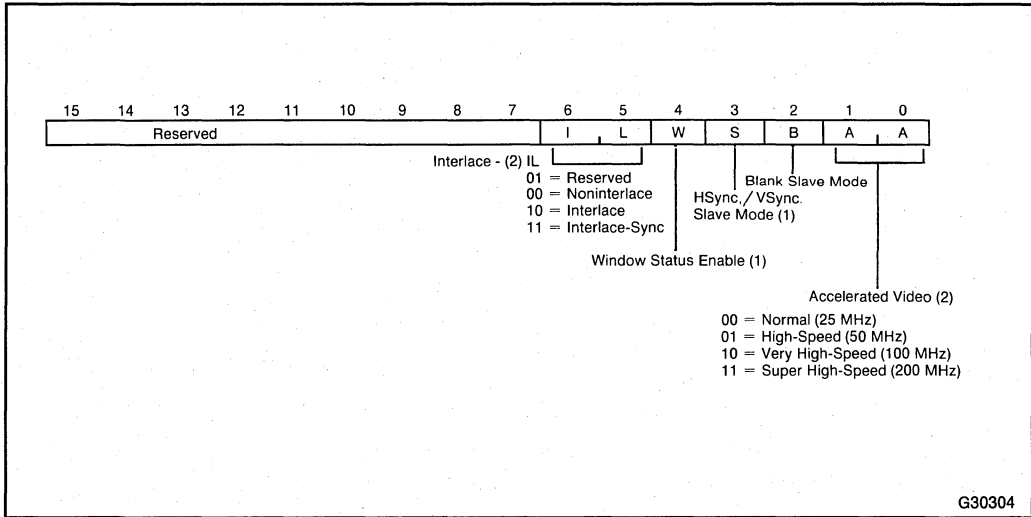

Figure 6-22. Display Processor Register 05H
These Video Timing values are programmed into the 82786 Display Processor (DP) to determine the vertical scan timing in Figure 6-22. They may be set to any value from 0 to 4095. Their values should also fit the formula: